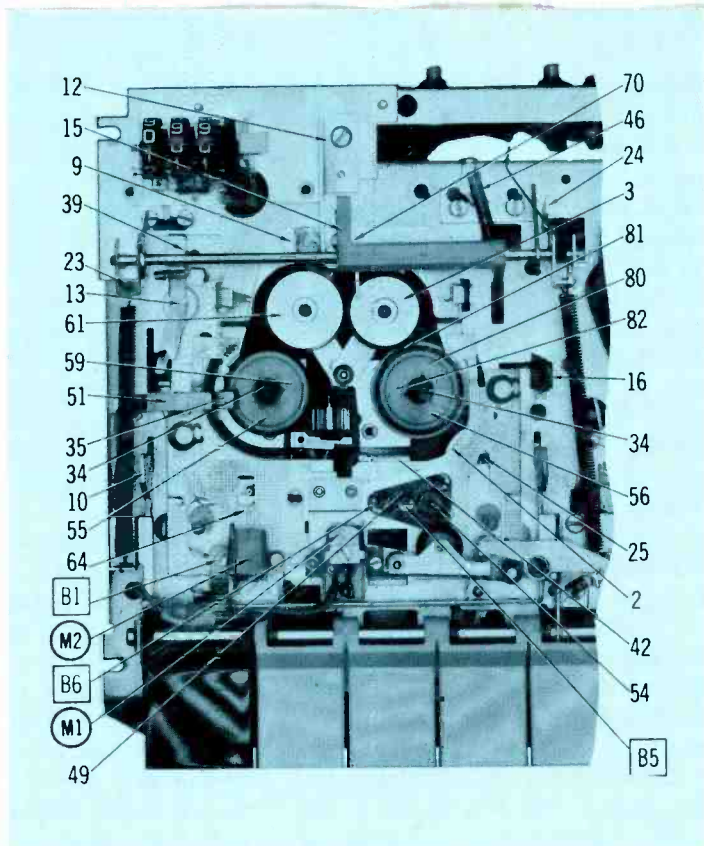

Fig. 17 Recorder with disc-type clutches.
With reference to Fig. 17, the take-up torque in the playing mode is developed by the disc clutch comprising clutch spring (82), reel disc felt (80), clutch disc (81), take-up
Next, note in Fig. 17 that the supply reel drag is provided by spring (51) and felt pad (35). This is a pad-type clutch that operates in the same basic manner as a disc clutch. In this example, the supply reel drag torque has a nominal value of 1/4 ounce-inch. The torque value is determined by the condition of the felt, and by the tension
When the supply-reel drag becomes incorrect in this type of transport, the condition of the felt pad should be checked first. If it is contaminated, the pad can be cleaned by washing it in alcohol. The counter drive pulley (59) in Fig. 17 also should be cleaned be-